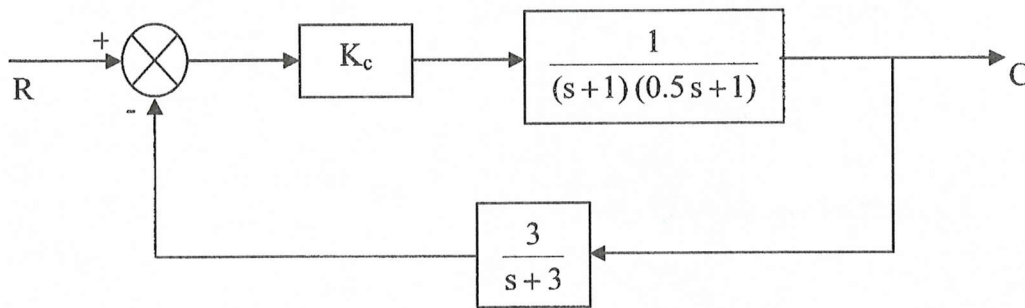

Figure Q. 3
- [c] Write the characteristic equation and construct the Routh array for the control system shown in Figure Q. 3. Is the system stable for (i)  $K_c = 9.5$ , (ii)  $K_c = 11$  and (iii)  $K_c = 12$ ?